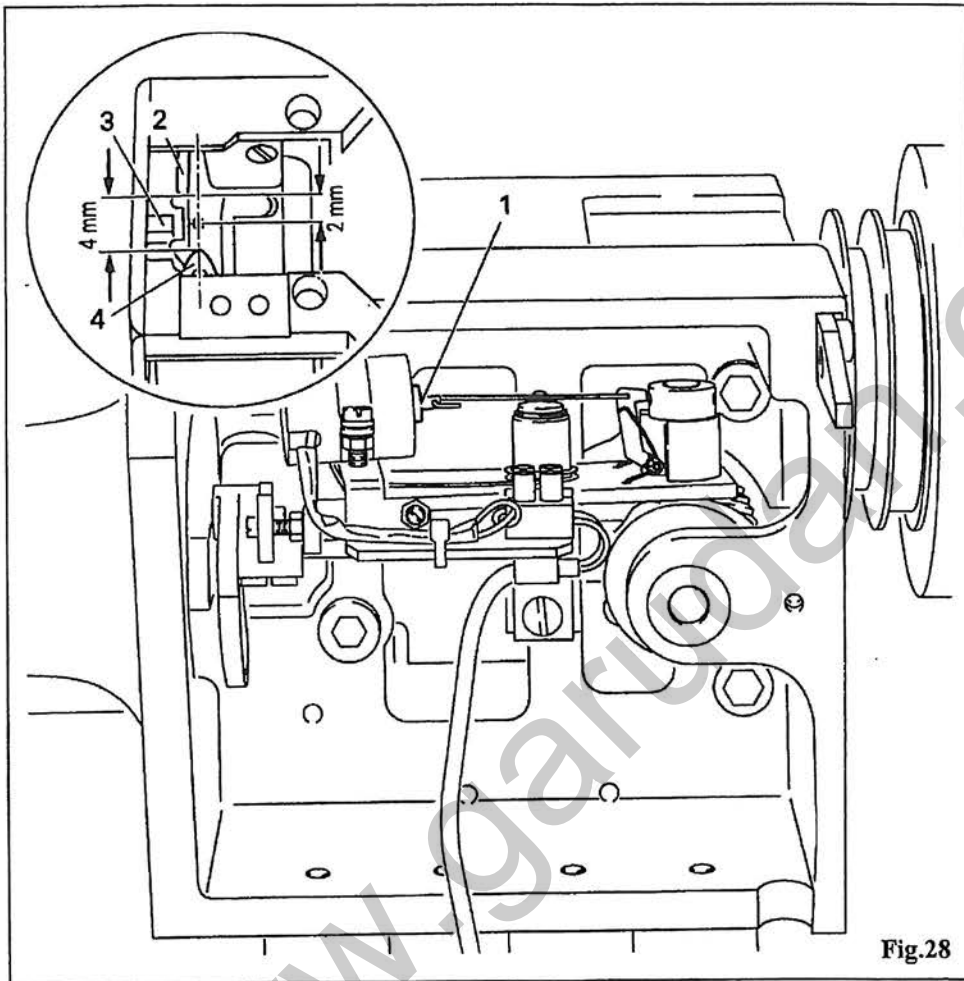

Fig.28
- ① Remove knife 1(screws 2).
- ② Set the needle bar at b. d. c.
- ③ Operate solenoid core 3 by hand and turn the balance wheel until the needle bar is at t. d. c. In doing so, make sure that thread catcher 4 does not strike bobbin case position stop 5 during its motion.
- ④ Set lateral position of thread catcher 4(screws 6)according to Requirement.
(8) Control cam (final adjustment) (Fig.28)